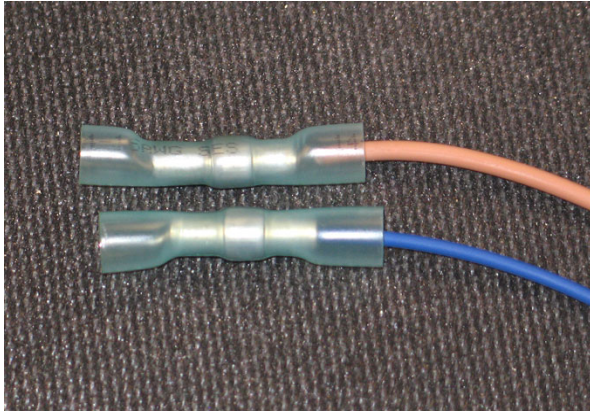

FIG. 1
3. Cut the leads on the electrical harness (1) to length.
4. Strip approximately 0.375 in. (9.5 mm) of insulation from the end of each electrical harness (1) wire.
5. Crimp a sealed butt connector (2) onto each electrical harness (1) wire. (Fig. 1)